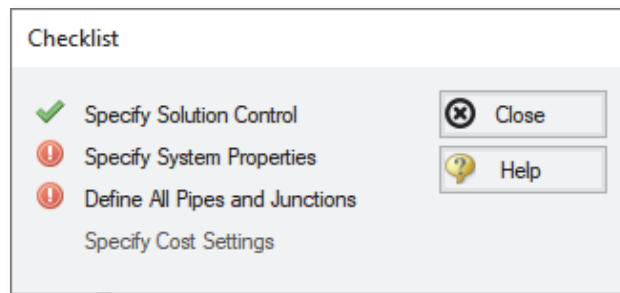

Figure 2.6 The Checklist tracks the model's status. You will see additional Checklist items if any of the add-on modules are in use
- **Next, click the checkmark on the Main Toolbar** at the top of the AFT Fathom window. This opens the Checklist window (see Figure 2.6). The Checklist window (also simply called the Checklist) contains four or more items depending on which modules you may be using. Each item needs to be completed before AFT Fathom allows you to run the Solver.